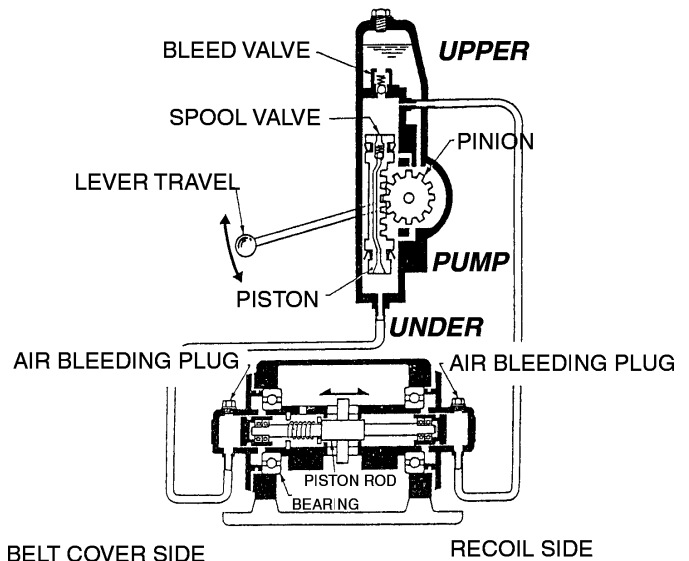

Figure 22. Hydraulic System
4. Remove bleed plug at the cylinder of the vibrator (right belt cover side, forward travel circuit) (Figure 22). After a while, oil will flow out of the bleed plug. When aeration disappears, reinstall the plug, tightening it securely.